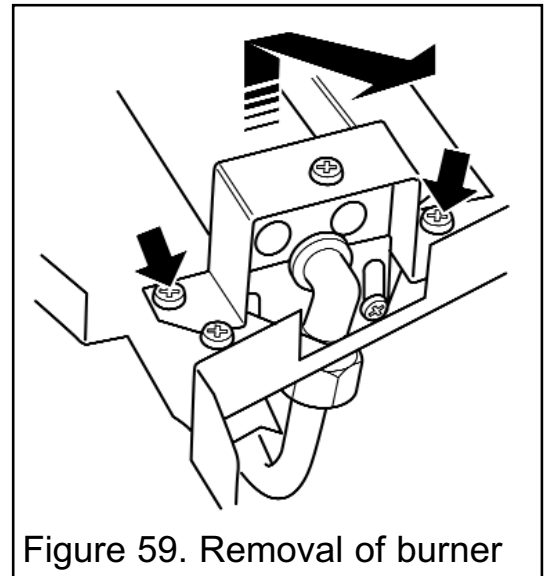

Figure 59. Removal of burner
(See figure 59).
3. Remove the two screws from the burner clamping plate (See figure 59)